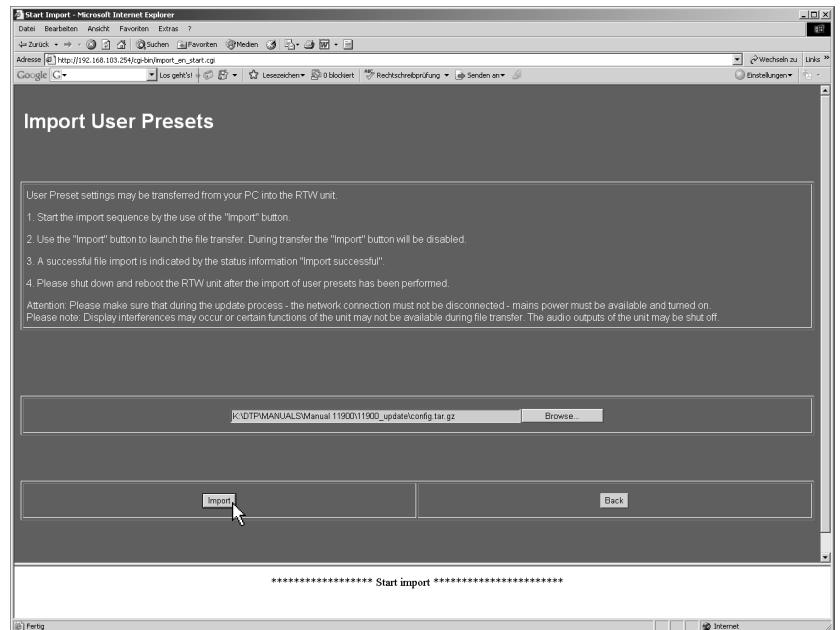

Fig. 8-21: Starting the import
5. A click to the Import button starts the data transfer to the SurroundMonitor units (see Fig. 8-21). If the Import button is not visible move the menu page upward by using the scrollbar on the right. **Please make sure that no interruption of the network access or supply power occurs during the download sequence.**